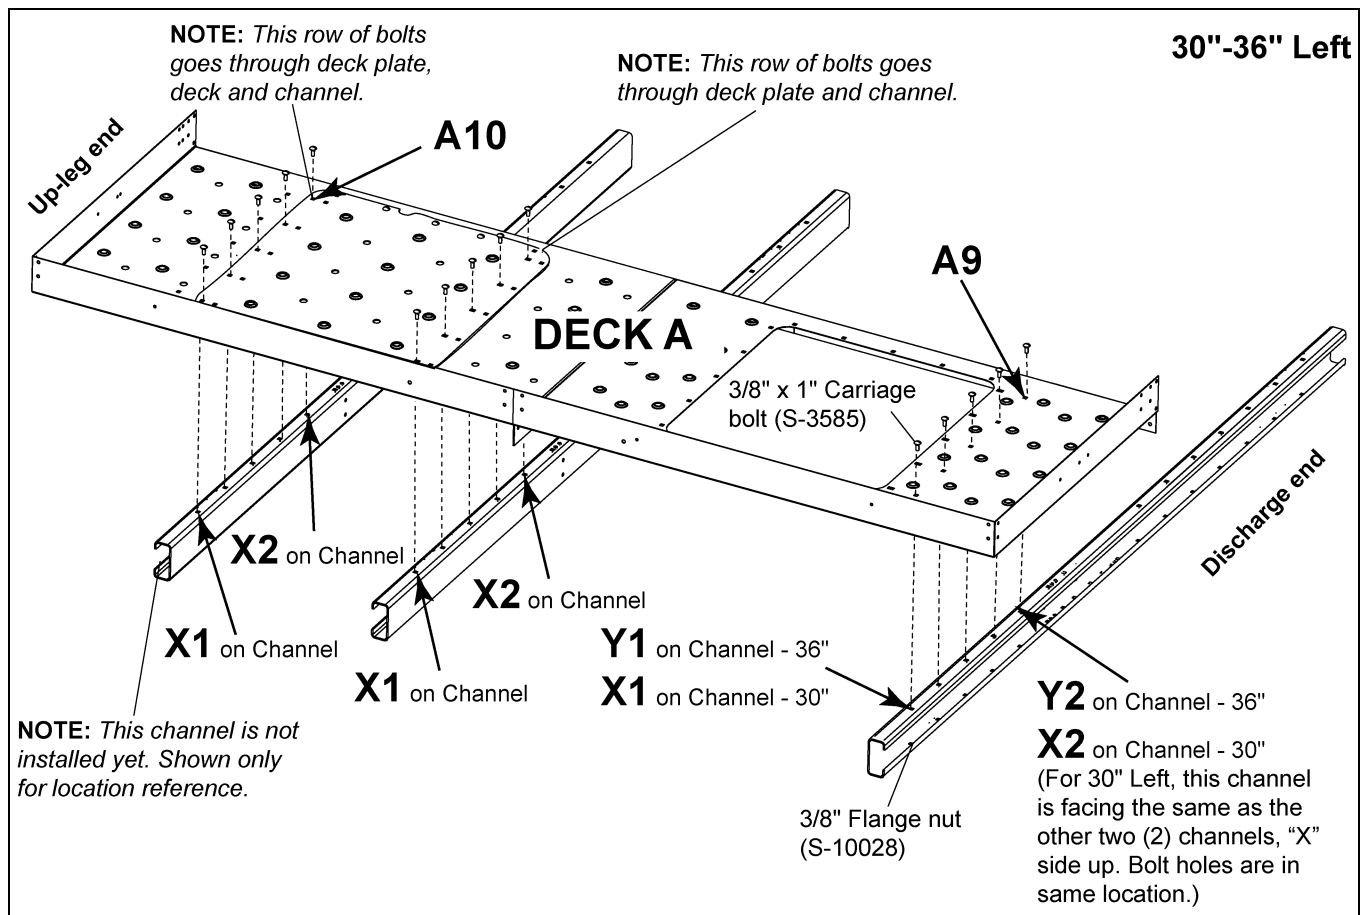

Figure 9H
3. On the **Discharge End**, use a punch as needed to line up. (See Figure 9H.)
- b. At the **hatch side** - Channel hole **X2** on the cross deck support channel to Deck A hole **A10** and deck plate cover. (See Figure 9H on Page 72.)